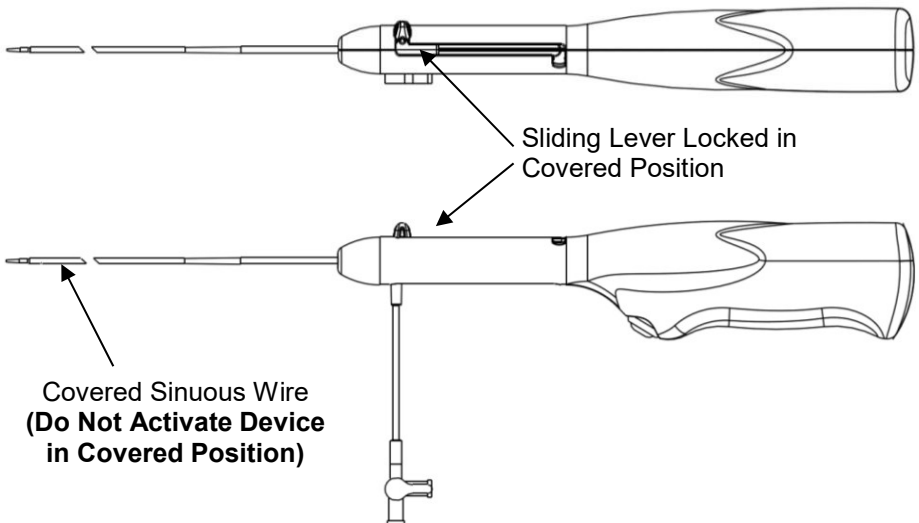

Figure 3
9. Place the device in the covered position by pushing the sliding lever to the distal position and rotating the sliding lever to lock in the covered position (refer to Figure 3). When in the covered position, only the flexible tip of the sinus wire should extend from the catheter. **Warning: The device should not be activated in the covered position.**